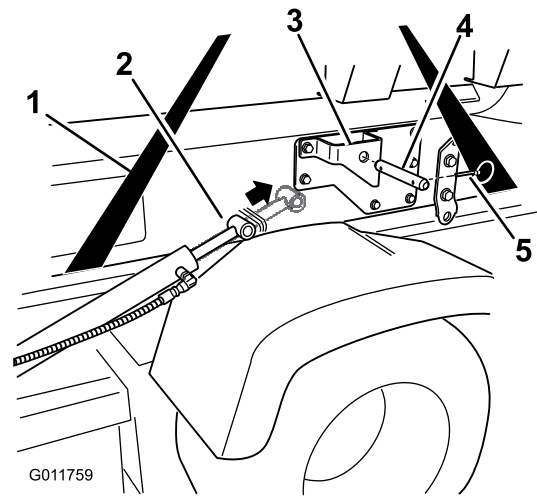

Figure 20
- Extend the lift cylinders to the brackets on the tank skid. Align the cylinder arms with the holes in the tank skid brackets (Figure 20).